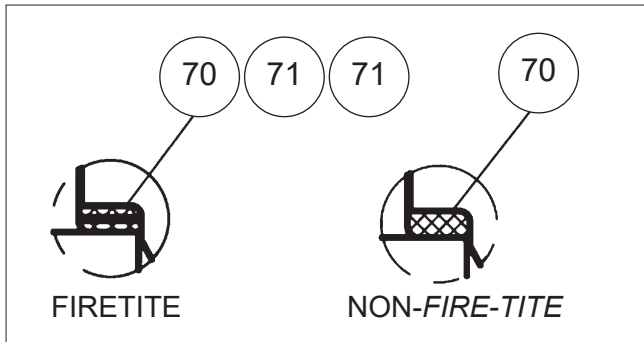

Figure 4. Stem Bearing Orientations
- For Fire-tite®, place the stem bearings (70) and secondary stem seal (71) as shown in **Figure 4** on the stem. For non-Fire-tite place the stem bearing (70) on the stem. See How to Order Section to determine proper valve construction.